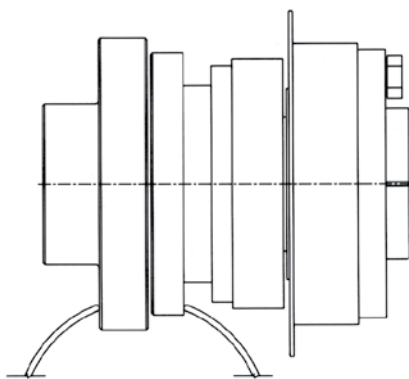

Figure 11 - Angular "C" Coupling Alignment
- a. Measure from the outside of the coupling flange to the outside of the adapter around the periphery of these two components **without rotating** the shafts. Refer to Figure 11.